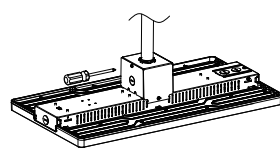

Figure 4
- Step4. Lock side brackets with screw driver. (Figure 4)